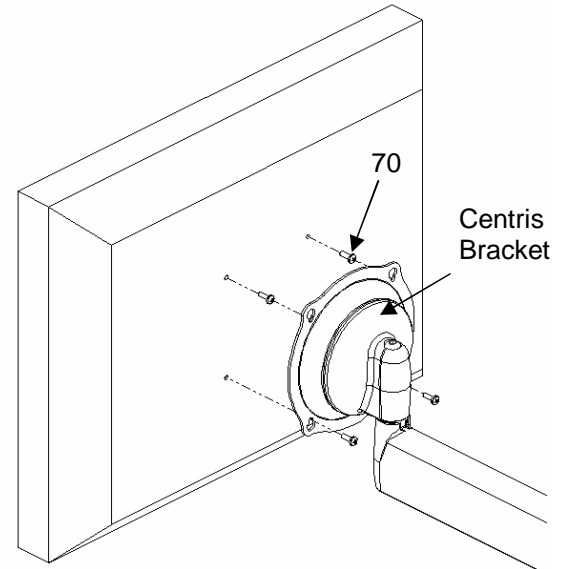

Figure 6. Flush Mount Centris Bracket to Display
1. Start two M4 x 12mm screws (70, Bag A) into top mounting holes on display (see Figure 6).